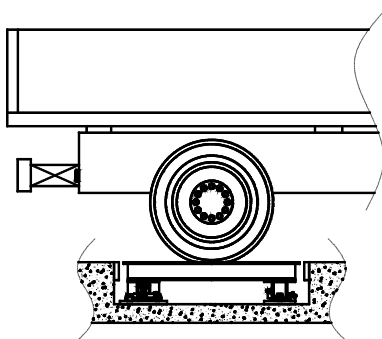

Figure 6-6: Vehicle Scale for Weighing in Motion
- **Vehicle WIM Scale:** A Weigh-in-Motion (WIM) scale weighs each axle of a vehicle as the vehicle is driven slowly across the scale and then sums the values to calculate the total weight. This type of application usually involves a pit scale that is wider than the vehicle and long enough to accommodate single or tandem axles. Because settling time is critical, stabilizers should be used to steady the scale (see Figure 6-6).